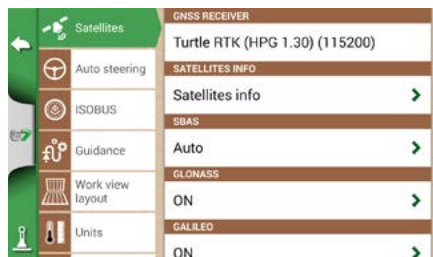

Figure 6.1.2.a - Satellites settings page
2. Tap on “NTRIP CLIENT (All in One RTK)”. See Figure 6.1.2.a